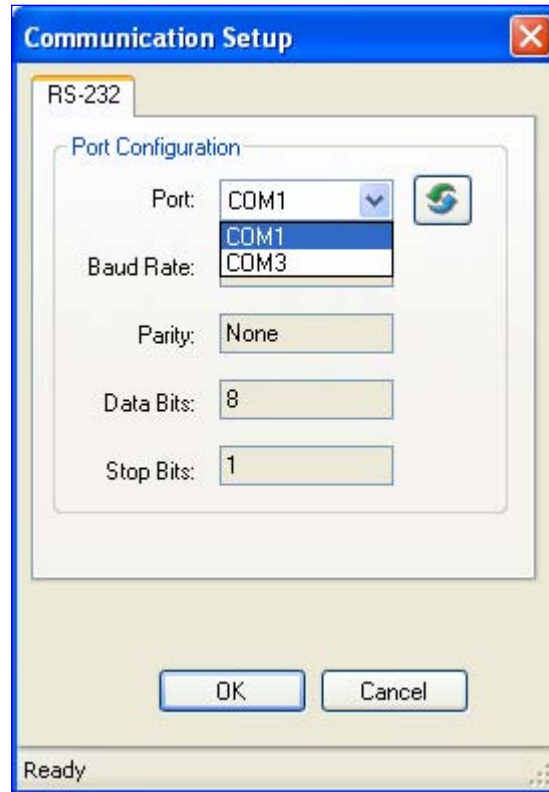

Figure 11. Communication Setup Window
2. In the Communication Setup window (see figure 11), select the comm port that is connected to the RS-232 port on the MSW. Click **OK**.